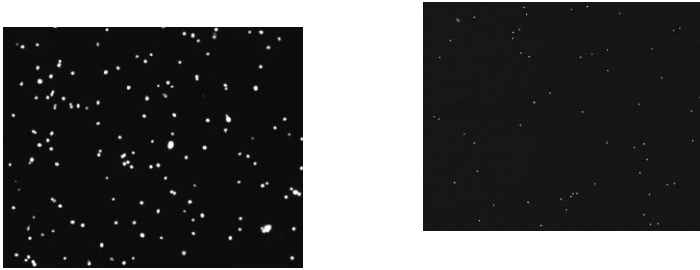

Figure 4: Example of post-bind AO/DAPI stained HEK cells (left) and PBMCs (right).
- After fixation, the cells/nuclei are permeabilized and should appear dead with viability stains. We recommend Trypan Blue for all counting up until the bead binding step. After the beads are bound, we recommend using fluorescent staining such as Acridine Orange/Propidium Iodide (AO/PI) or Acridine Orange/DAPI (AO/DAPI) (Figure 4).